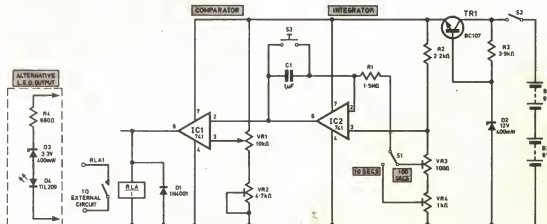

Fig. 1. Complete circuit diagram of the Two Range Timer
The complete circuit diagram of the Two Range Timer is shown in Fig. 1 with the range required being selected by S1.
- *See Fig. 1.